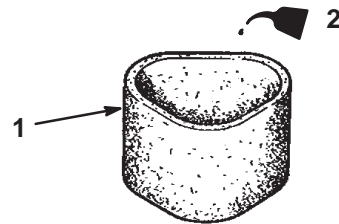

Figure 22
- C. Put oil on the element (Fig. 22). Squeeze the element to distribute the oil.